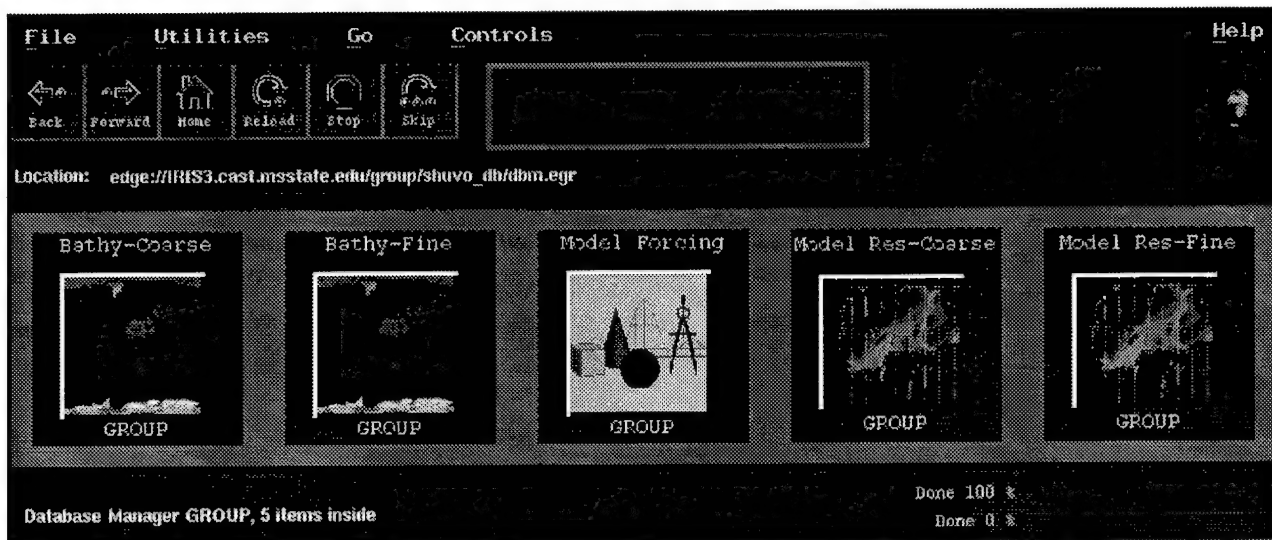

Figure 9 – The Database Manager EDGE window
2. This pops up another EDGE page containing five database icons, 'Bathy-Coarse', 'Bathy-Fine', 'Model Forcing', 'Model Res-Coarse' and 'Model Res-Fine' (Figure 9). This is the 'RME Data Page' which is used to manage all the databases related to RME.